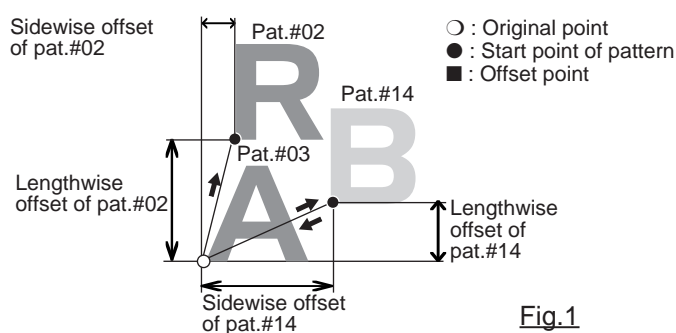
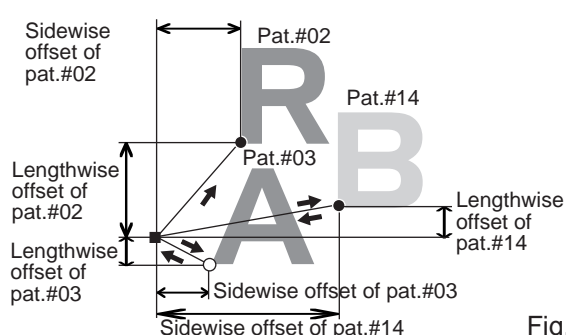

Fig.1
Fig.2
- If you embroider a pattern like in Fig.1, you will need to set an offset as a pivot to each pattern in advance. If the offset is set to the first pattern like in Fig. 2, you will need to set a setoff point to the first pattern with the offset of the other pattern as a pivot. P12-8